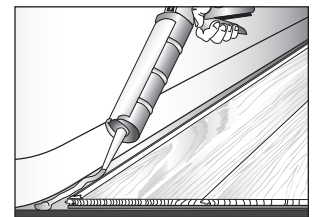

Figure 11
- All perimeter expansion zones must be filled and sealed with 100% silicone caulk following the manufacturer's recommendations. When applying caulk, it is helpful to first apply a strip of painter's tape (Scotch® Delicate Surface Painter's Tape 2080) parallel to and approximately 1/32" (.79 mm) from the edge of the flooring (Fig. 11). Then fill the expansion zone with caulk, remove the excess with a plastic scraper or putty knife and remove the tape.